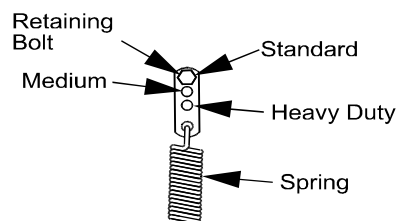

FIGURE 21
- b) For a heavier drive setting, relocate the spring anchor links to either the “medium” or “heavy duty” positions as shown in Figure 21. The spring anchor links are attached to the upper rear corner of the hydro drive shields on the left and right hand sides of the machine.